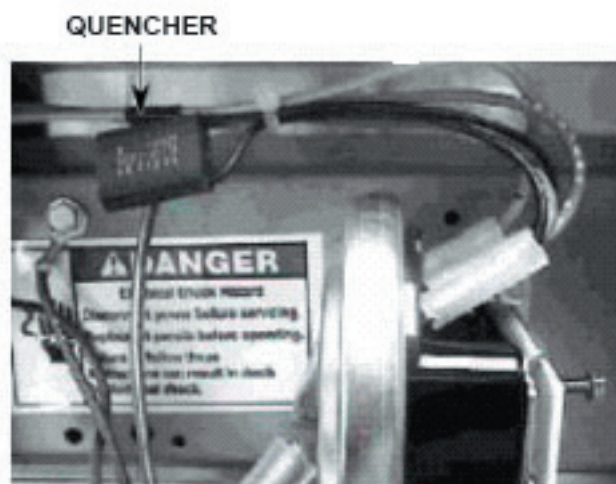

Fig. 4-8
8. Route the black quencher wires, along with the pink and tan wires, and use a wire tie to tie them together near the quencher body. (Fig. 4-8)